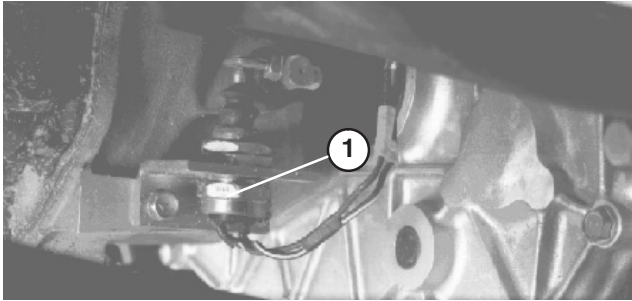

Figure 46
7. Recheck the clutch safety switch adjustment (Fig. 46). The engine must not crank unless clutch pedal is 1.25" ±.12" from floor. If an adjustment is required, loosen switch jam nuts and adjust up or down.